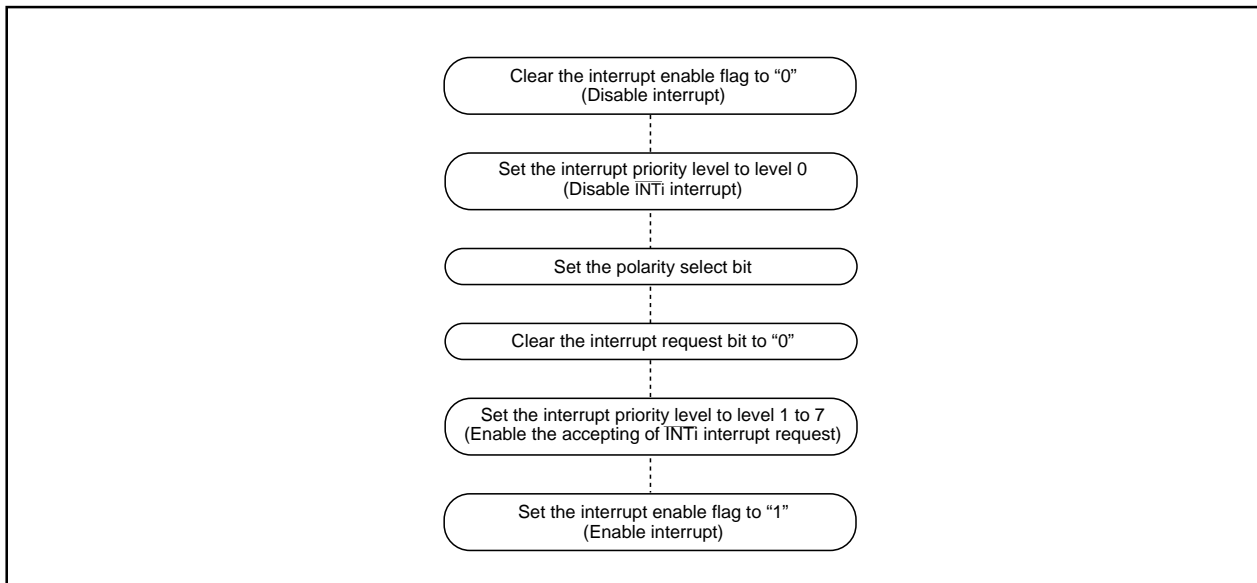

Figure 1.14.13. Switching condition of INT interrupt request
- When the polarity of the  $\overline{\text{INT}}_0$  to  $\overline{\text{INT}}_5$  pins is changed, the interrupt request bit is sometimes set to "1". After changing the polarity, set the interrupt request bit to "0". Figure 1.14.13 shows the procedure for changing the  $\overline{\text{INT}}$  interrupt generate factor.